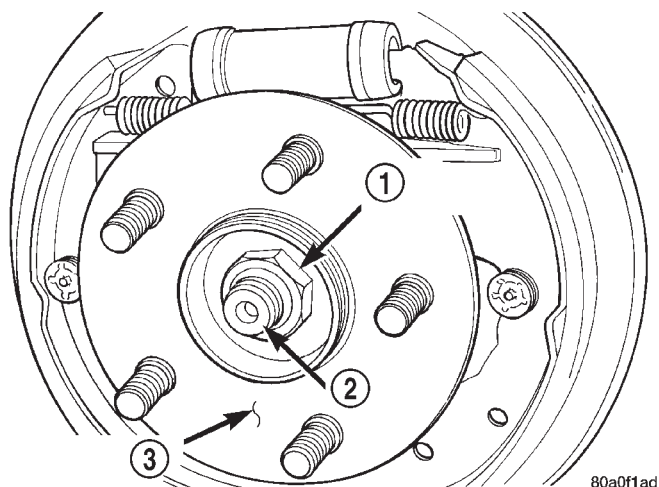

Fig. 119 Hub And Bearing Retaining Nut
(4) Remove the rear hub and bearing assembly retaining nut (Fig. 119). Then remove the hub and bearing assembly from the rear knuckle.
(5) Install rear hub and bearing assembly on rear knuckle. Install a **NEW** hub and bearing assembly retaining nut (Fig. 119). Tighten the hub and bearing assembly retaining nut to a torque of 250 N·m (185 ft. lbs.). Install dust cap.
(6) Adjust brake shoes assemblies so as not to interfere with brake drum installation.
(7) Install brake drum on rear hub/bearing assembly.
(8) Bleed the vehicle's base brakes hydraulic system.
(9) After brake drums are installed, pump brake pedal several times to do final adjustment of the brake shoe assemblies.
(10) Install the wheel and tire assembly. Tighten the wheel mounting stud nuts in proper sequence until all nuts are torqued to half specification. Then repeat the tightening sequence to the full specified torque of 129 N·m (95 ft. lbs.).